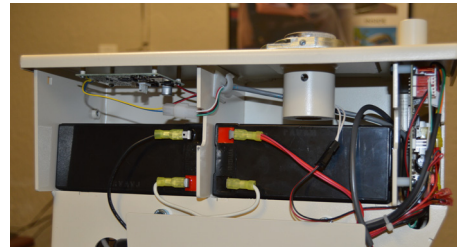

Figure 3-13
2. Install the batteries and connect wires. Ensure sure that the black wire is connected to the black terminal on one battery and that the red wire is connected to the red terminal on the other battery. Connect the black terminal on one battery to the red terminal on the other battery with the white jumper. If wired incorrectly, the universal access board may get damaged. **See Figure 3-13.**